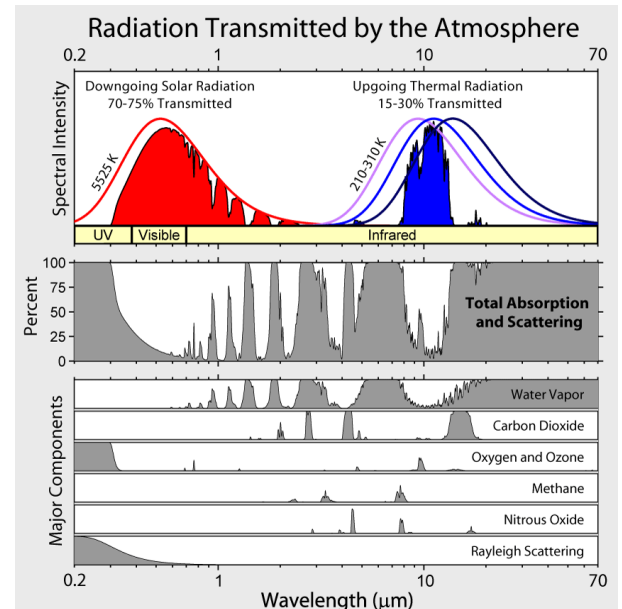

Figure 1: Radiation Transmitted by the Atmosphere³
For example, consider how UV, Visible, and Infrared radiation (IR) are absorbed by the various constituents of the Earth's atmosphere (Figure 1). In particular, you can see that carbon dioxide molecules have three regions of absorption in the IR spectrum. The way in which the molecule absorbs the energy contained in the IR photon, is that it transfers this energy into kinetic energy through vibrational motion⁵. Much like a person pushing someone on a swing, if the energy in the IR photon "pushes" the oxygen and carbon atoms according to their natural rhythm then the movement of these atoms can grow and be sustained. However, if the energy is associated with a different frequency of "pushing" then the impulse is out of sync with the vibrational movement of the atoms and thus the energy of the photon is not absorbed or converted into kinetic or another form of energy. This natural rhythm or movement of CO₂ depends on the atomic structure of that molecule.